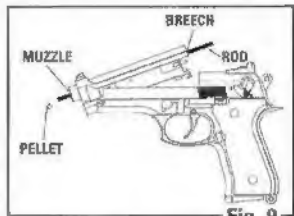

Fig. 9
- Push the pellet out the muzzle of the air pistol from the breech. (Fig. 9)
- Push the jammed pellet out of the muzzle end of the air pistol from the breech as shown in Fig. 9.